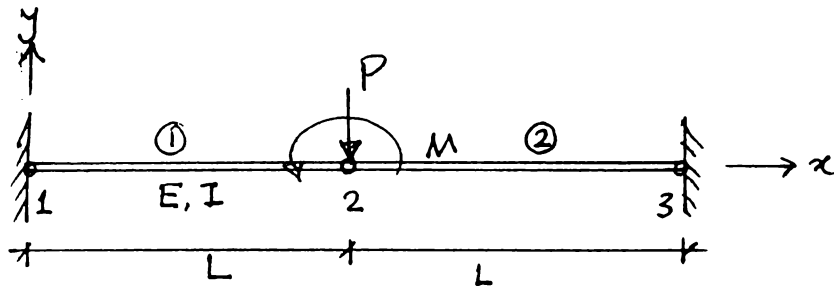

Figure 4
- (b) The beam shown in Figure 4 is clamped at the two ends and acted upon by a force P and moment M in the mid span. Find the deflection and rotation at the central node (Node No. 2) and reaction forces at the two ends (Node No. 1 and 3). (10)